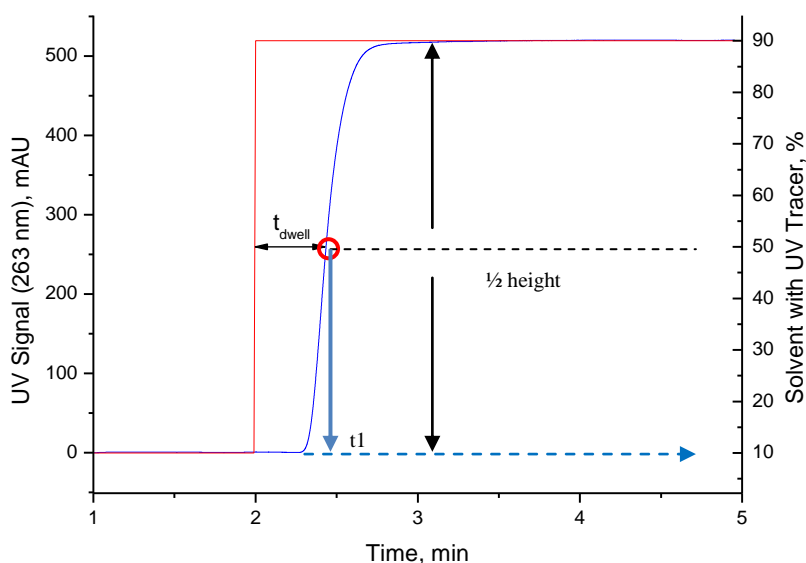

figure 1 - Example of dwell volume measurement by step boundary using 0.1% acetone as UV tracer
- a. Determine the actual elution time of acetone, **t1**, at half of UV-signal height (blue curve in figure 1).
- b. Calculate a dwell time, **t-dwell**, as a difference between the programmed (red curve in figure 1) and **t1**. **t-dwell = t1 – 2**